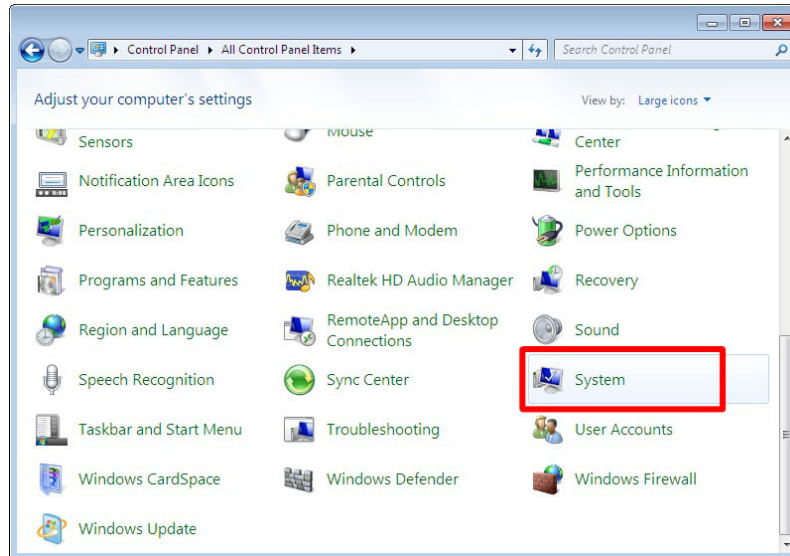

Figure 6-13: Double Click the System Icon
Step 2: Double-click the **System** icon (Figure 6-13).